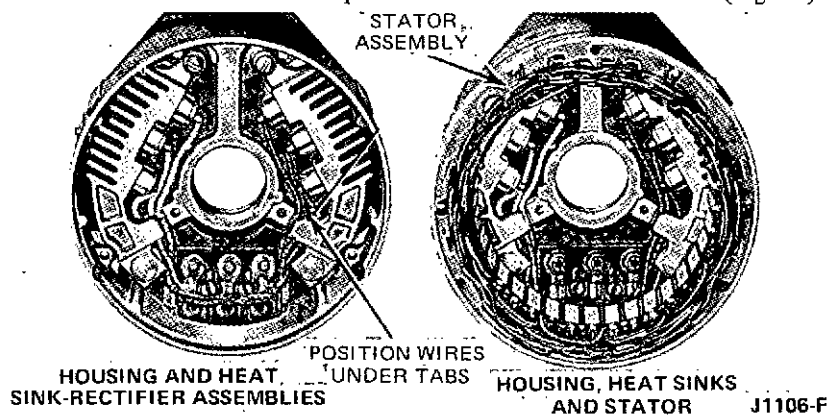

Fig. 35 - Rear Housing, Rectifier and Stator Assembly
Set the Rotunda ohmmeter multiply-by knob at 1. Connect the ohmmeter probes between each pair of stator leads (Fig. 35). If the ohmmeter does not show equal readings between each pair of stator leads, the stator is open and must be replaced.
4. Install the stator insulator. Put the rectifier insulators in position. Place the rectifier assemblies in the housing and install the mounting screws and terminals. Make certain that the rectifier assemblies are insulated from the end frame. Position the three rectifier terminals to the terminal studs. Position the wires under the tabs extending from each heat sink to prevent interference with the rotor (Fig. 35).
5. Place the stator in position (Fig. 35), and line up the housing through bolt holes to match those in the stator. Position the three stator terminals over the three rectifier terminals, and install the terminal nuts (Fig. 35).